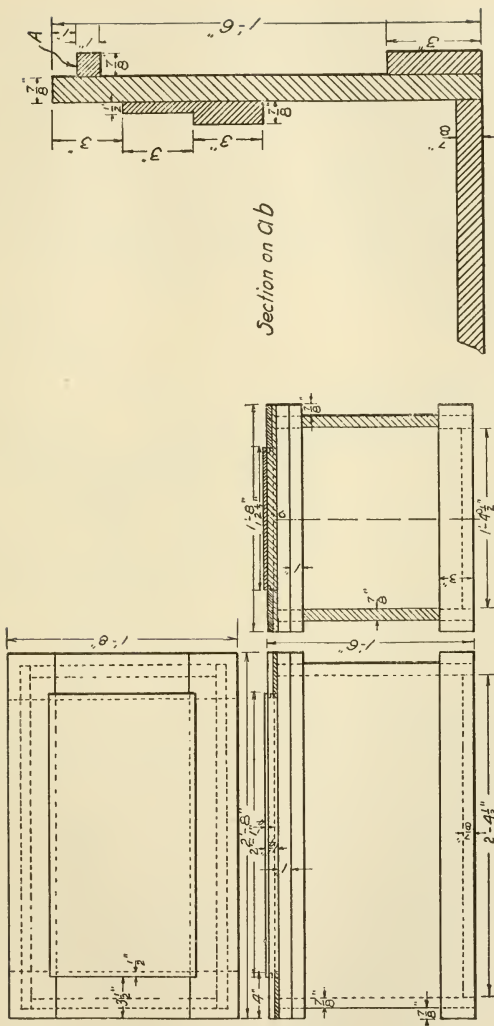
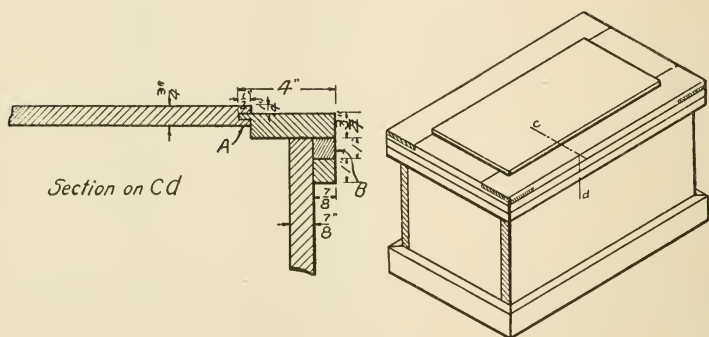
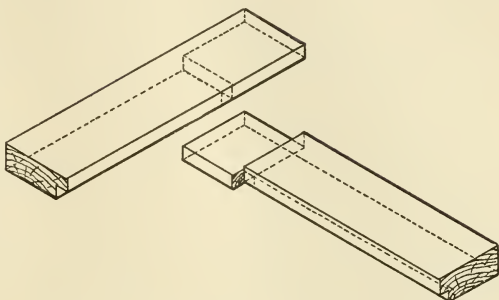

FIG. 119. — WORKING DRAWINGS OF TOOL CHEST.
FIG. 120. — ASSEMBLED TOOL CHEST.
FIG. 121.—HALVING THE CORNERS OF THE TOP.
tongue of the rabbet in the frame. The rabbet and groove are shown in Fig. 120 at *A*. The method of halving the pieces together after cutting the rabbet is shown in Fig. 121, which is an illustration of the pieces ready to assemble.
8. Mitering the strips for the top. — If the top has been made according to the dimensions on the drawings, it will extend over the sides of the box 1" on each side and over the ends the same distance. Four strips each 1" wide and $\frac{7}{8}$ " thick are to be fastened to the underside of this overhang of the top. These strips must be fitted so as to fit tight around the box, and are to be mitered at the corners. Lay out and cut just as the bottom strips were. Fasten to the top by screws put down through the top into the strips. (See *B*, Fig. 120.) Underneath these strips are four others the same size fastened to the box, and they act as a shoulder on which fall the top strips. (*A*, Fig. 119.)
screwed to the ends of the chest 3" down from the upper edge, as shown in *Section on ab*, Fig. 119.